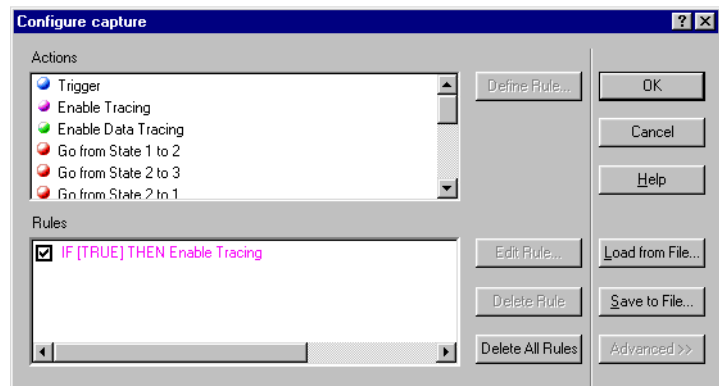

Figure 3-5 Configure capture dialog box
1. Select **Configure capture** from the **Trace** menu. The Configure capture dialog box is displayed, as shown in Figure 3-5.